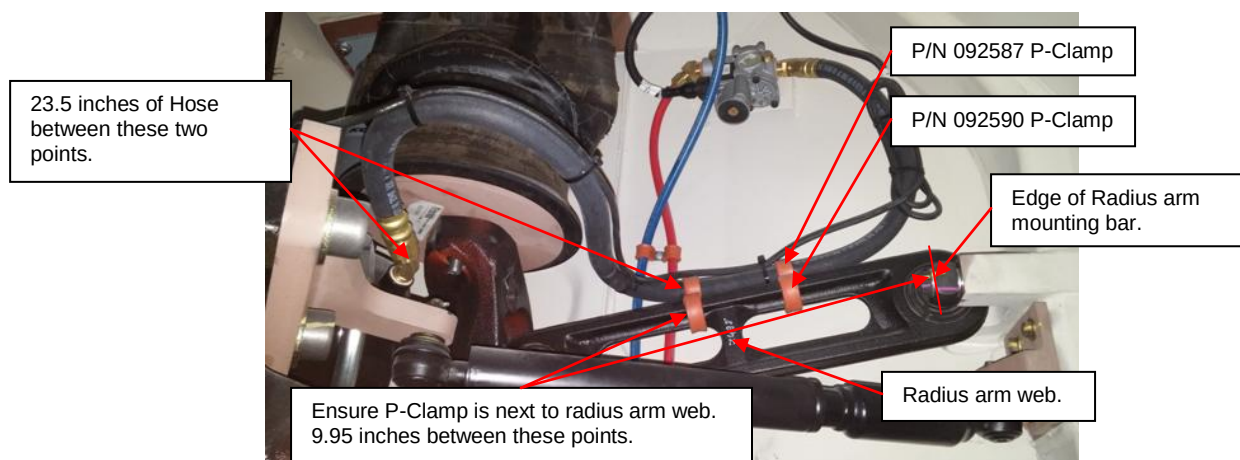

Figure 3: P-Clamp Locations
6. Using a piece of string, trace the path of the brake air line from the far end of the nut that attaches to the modulator valve to the first P-clamp on the forward end of the ladder style suspension radius arm. This distance should be 23.5 inches. If it is not 23.5 inches, loosen the P-clamps and adjust the hose position. See Figure 3. If installing a new hose use the mark from step 5C as a reference.
7. Adjust the position of the rearward P-clamp attached to the suspension radius arm so that it is next to the connecting web at the mid-point of the radius arm. The rearward edge of the p-clamp should be 9.95 inches from the edge of the radius arm mounting bar. Figure 3.